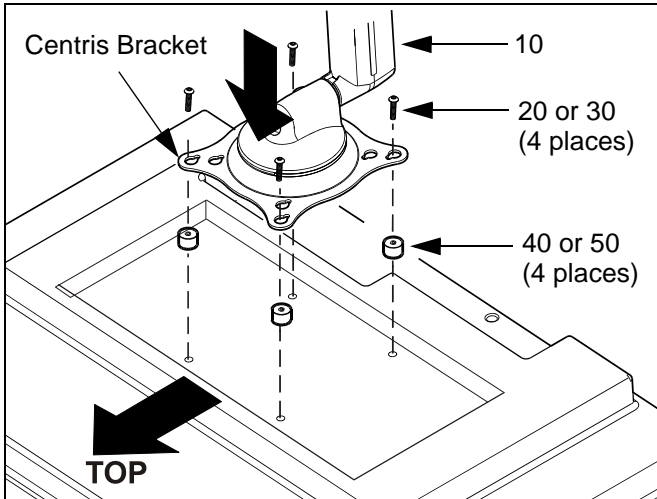

Figure 11: Single Display - Recessed Mount
7. Pick up and orient the mount (10) so that the mounting holes in the Centris bracket are aligned with the holes in the spacers; rotate the bracket as required (See Figure 11).
8. Using Phillips screwdriver, install four selected screws through the mounting holes in Centris bracket, through the spacers, into the display (See Figure 11). Tighten all four screws. Do not overtighten!